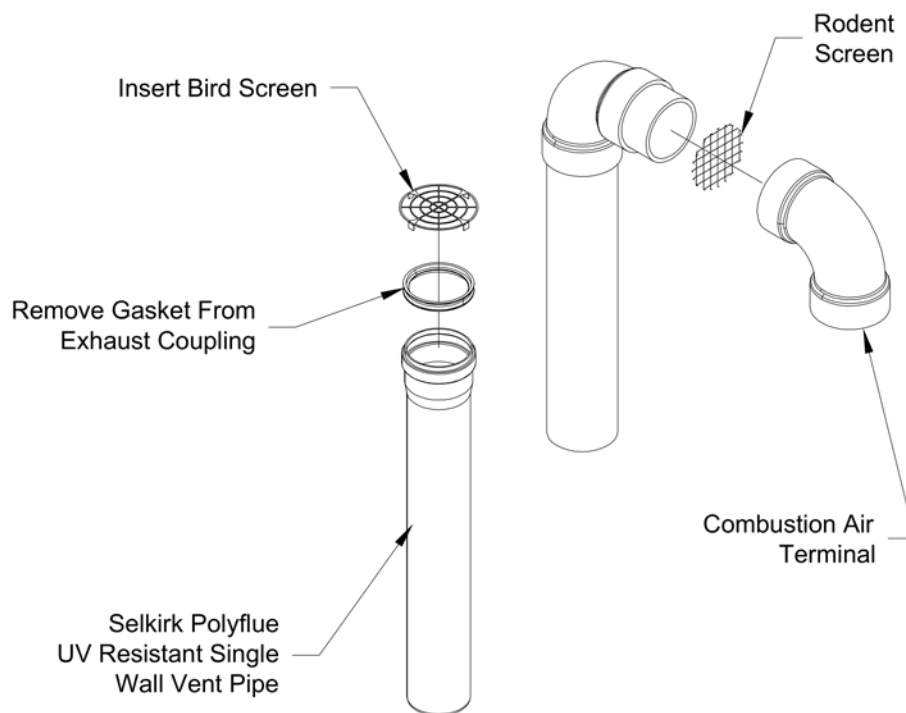

**Figure 7.40: Polyflue Pipe Locking Band Installation**
- c. For each joint, verify that the gasket is evenly seated in the bell (female) end of the pipe. Lubricate this gasket with mild soapy water. Slide a Pipe Locking Band over the male end of the pipe to be joined as shown in Figure 7.40. Push the male end of the next section of pipe into the bell until it bottoms out, then back out 1/8—1/4" to provide room for thermal expansion. Slide pipe locking band over the female end of the connections and tighten both hose clamps.